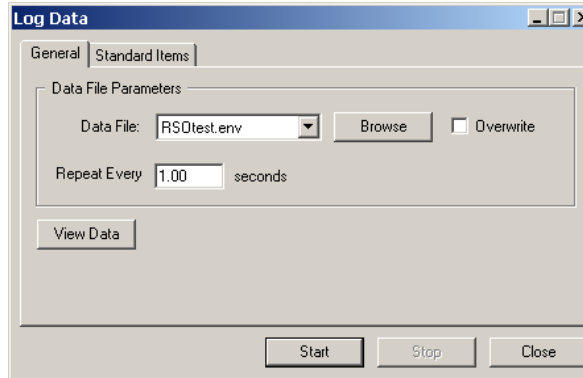

Figure 4. General tab in Log Data dialog
3. Click on the **General** tab to bring it forward (Figure 4).